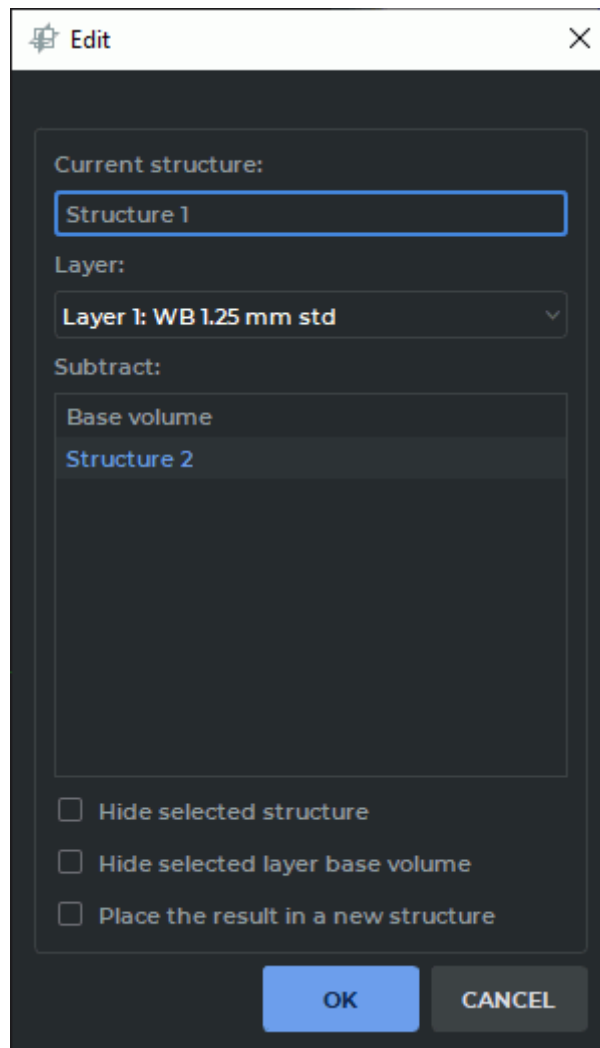

Figure 6.29: Editing structures dialog
2. Click on the **Subtract diluted**  button. The dialog box shown in Fig. 6.29.